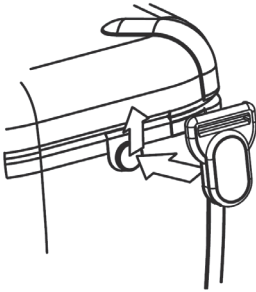

Fig. 54
Correct assembly is shown in Fig 54, 55 and 56. By hanging the instrument round the neck, both hands will be left free for testing.
1. Attach the Buckle to the KT65 as shown in Fig.54.